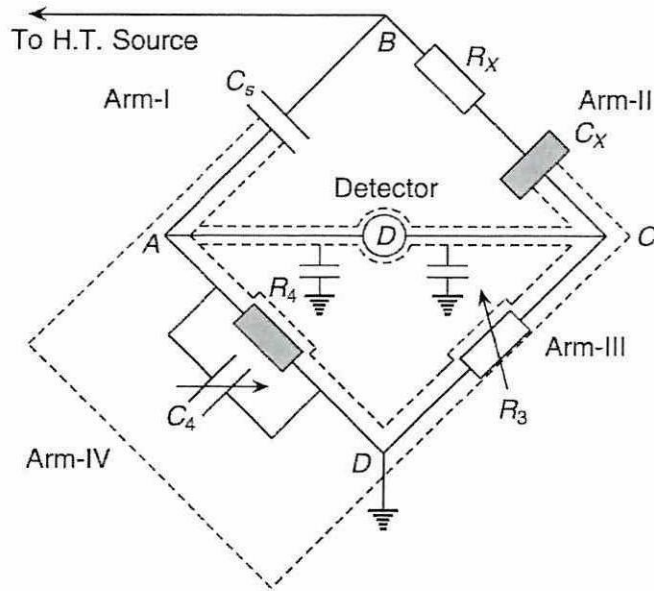

Figure Q3(c)
- (c) A Schering bridge as in **Figure Q3(c)** is used to measure the capacitance and dissipation factor of insulation system in power transformer. The bridge achieved balance at the following condition: